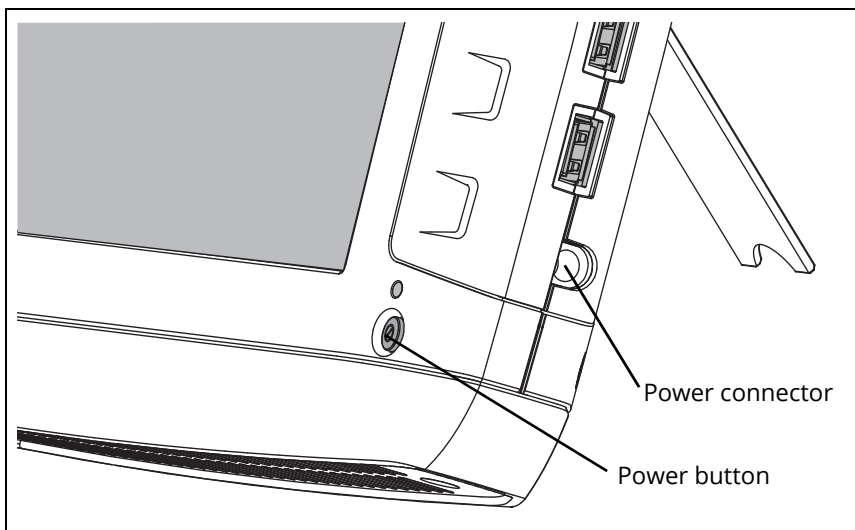

Figure 12. Powering On
1. Connect the AC adapter to a power source and to the OptiView XG Network Analysis Tablet. See Figure 12, "Powering On" for the location of the power connector and power button. The batteries are not fully charged before shipment due to transportation regulations.